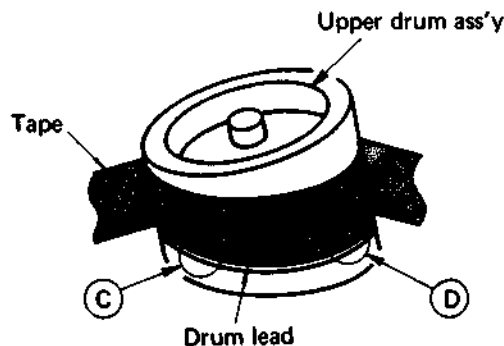

Fig. 5-30 Drum lead check-2
4. Observe the tape as it becomes wrapped around drum during loading and as it separates from the drum during unloading. Confirm absence of damage to the tape at points C and D as shown in Fig. 5-30 and absence of contact noise between head tips and tape edge.